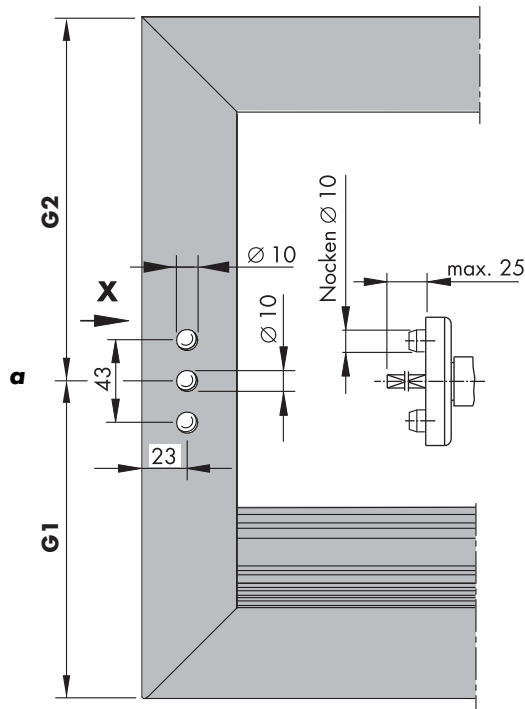

Figure 1
- a** Perform section processing for window handle (1) (Figures 1+2).